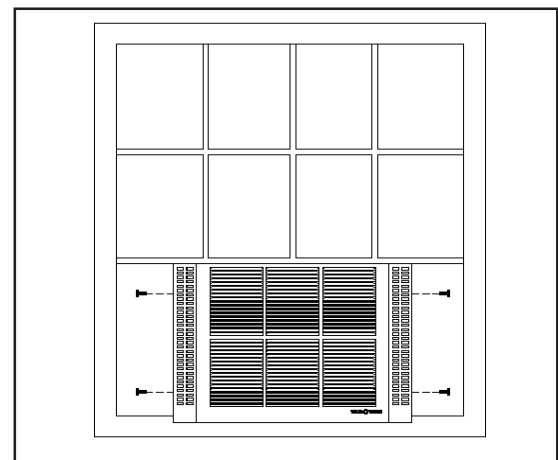

FIGURE 10
- O.) Install front panel. Hang top of front panel over top cabinet flange and between window sash. Secure using four (4) #8 x 1/2" painted screws (Provided). (See Figure 10).
- N.) Install front panel. Hang top of front panel over top outer cabinet flange and between wall. Secure using four (4) #8 x 1/2 painted screws (provided). (See figure 10).
- N.) Install front panel. Hang top of front panel over top outer cabinet flange and between wall. Secure using four (4) #8 x 1/2" painted screws (provided). (See Figure 10).